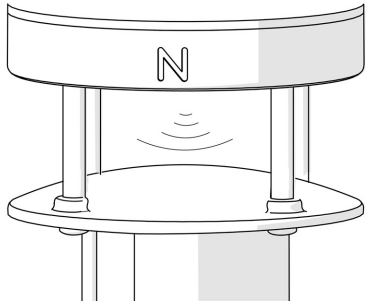
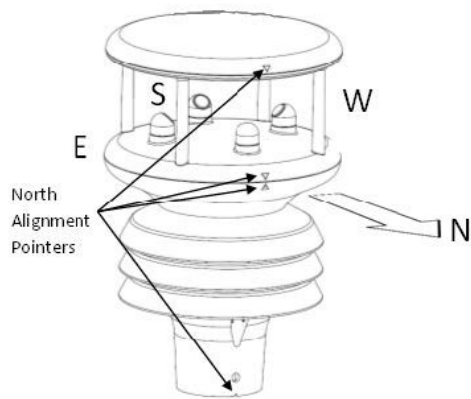

Figure 3-7. Engraved N on the ClimaVue 40
Figure 3-8. Four notches on the MetSens500
4. Orient the sensor to magnetic north. For the ClimaVue 40, the engraved **N** should point to magnetic north (Figure 3-7 [p. 16]). For the MetSens500, the four notches should align to the magnetic north (Figure 3-8 [p. 16]). Refer to the following: